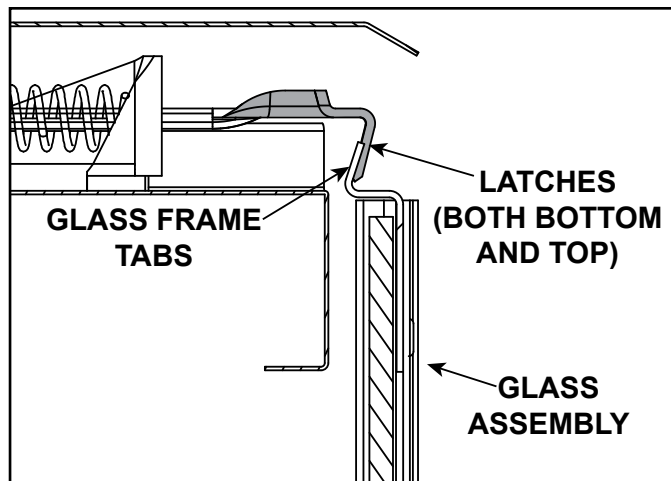

Figure 11.5 Fixed Glass Assembly
- Pull the four glass assembly latches away from the tabs on the glass frame. Remove glass assembly from the appliance. See Figure 11.5.